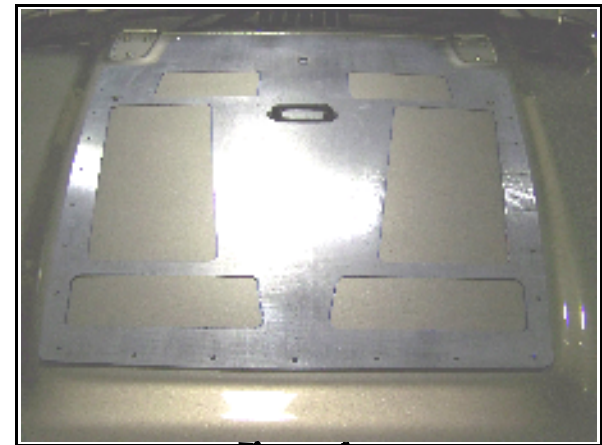

Figure 1
Step 3 - Place steel template in the center of hood as seen in (Figure 1). **Picture may vary from your Template. Visually make sure the holes in the template are centered with the holes for the windshield tie down bracket and the template is exactly where you want it.**